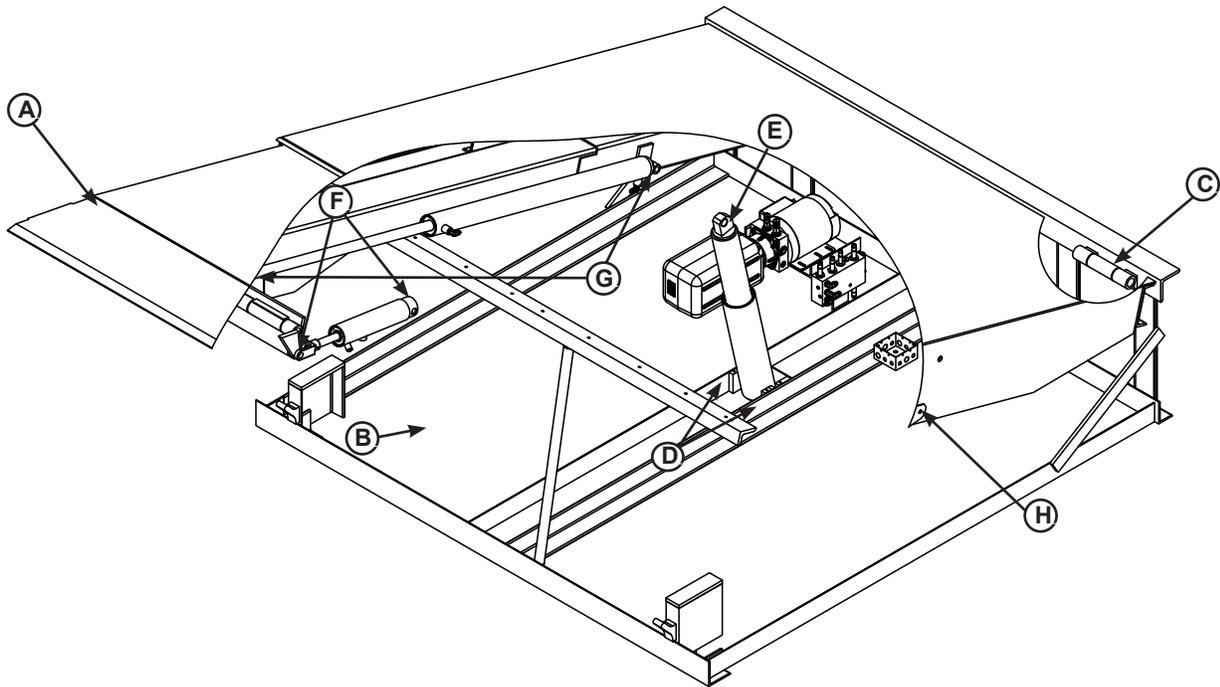

Figure 23
- Lubricate the following areas with light weight machine oil (see Figure 23):
- (A)— Lip hinge area unless equipped with grease fittings (apply oil to the top of the entire length of lip hinge when platform is at the full below-dock position and lip is folded).
- (C)— Platform hinge area (apply oil to top of all platform hinges when platform is at the full below-dock position).
- (E)— Platform cylinder-to-platform frame pin.
- (F)— Lip cylinder-to-platform frame pin.
- (G)— Lizard Lip cylinder pins.
- (H)— Toe guard pivots.
- Lubricate the following areas with white lithium grease (see Figure 23):
- (B)— Barrier pivots (if equipped).
- (D)— All platform cylinder trunnions.